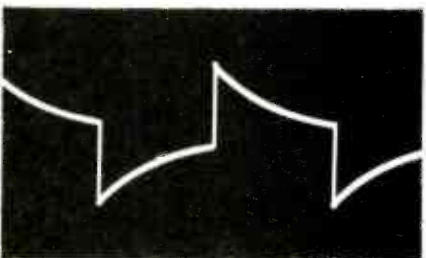

Figure 3
12. During a square-wave test of an audio amplifier, the scope waveform of Figure 3 indicates: